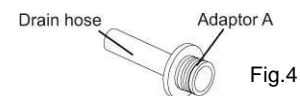

Fig.4
- Install drain hose to adaptor A. (Fig.4)